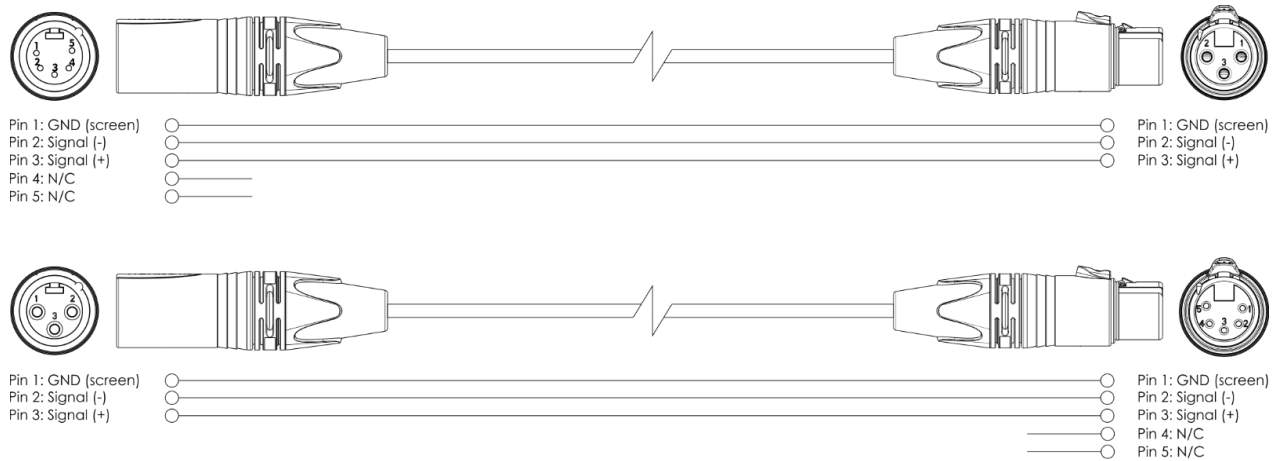

Fig. 06
- 01) Install the clamps, as shown in Fig. 06. Make sure that you use clamps suitable for attaching the device to a truss.
When you make your own DMX cables, make sure that you connect the pins and wires correctly as shown in Fig. 06.